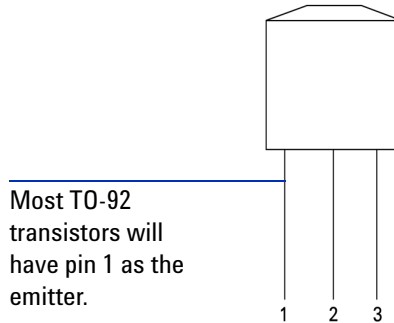

Figure 5-7 TO-92 Transistor
- 3 In this example, we will use a BJT with TO-92 package as shown in Figure 5-7.